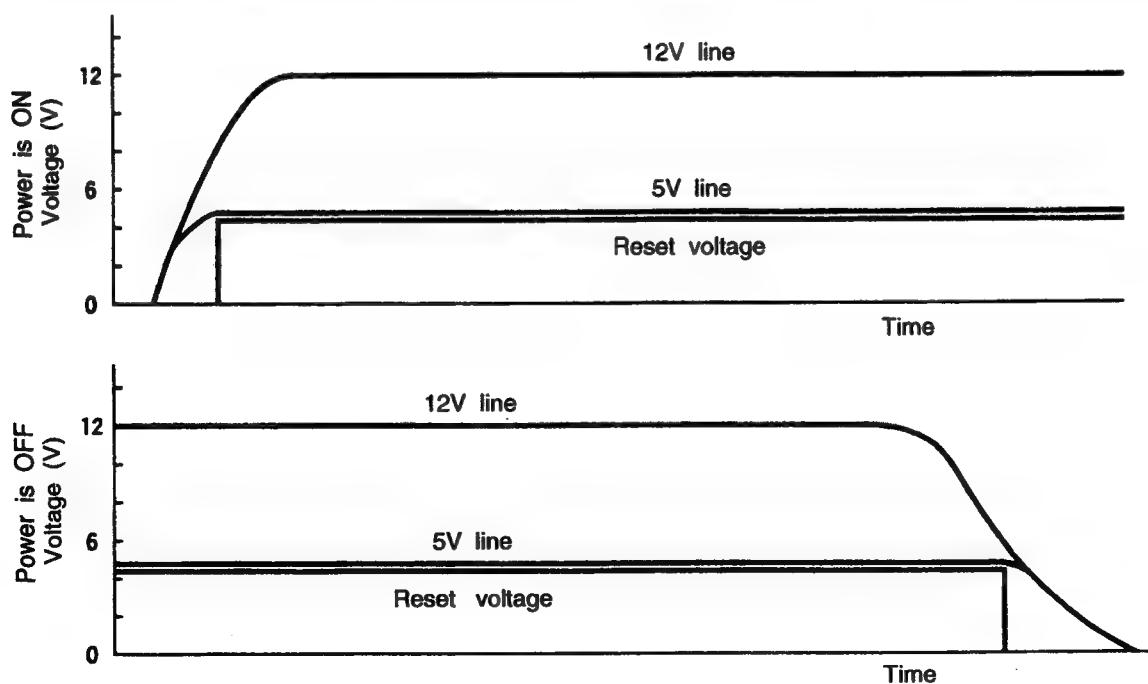

Fig. 11-2
- Fig. 11-1 shows the reset circuit and Fig. 11-2 shows waveform at each point when power is turned on and off.